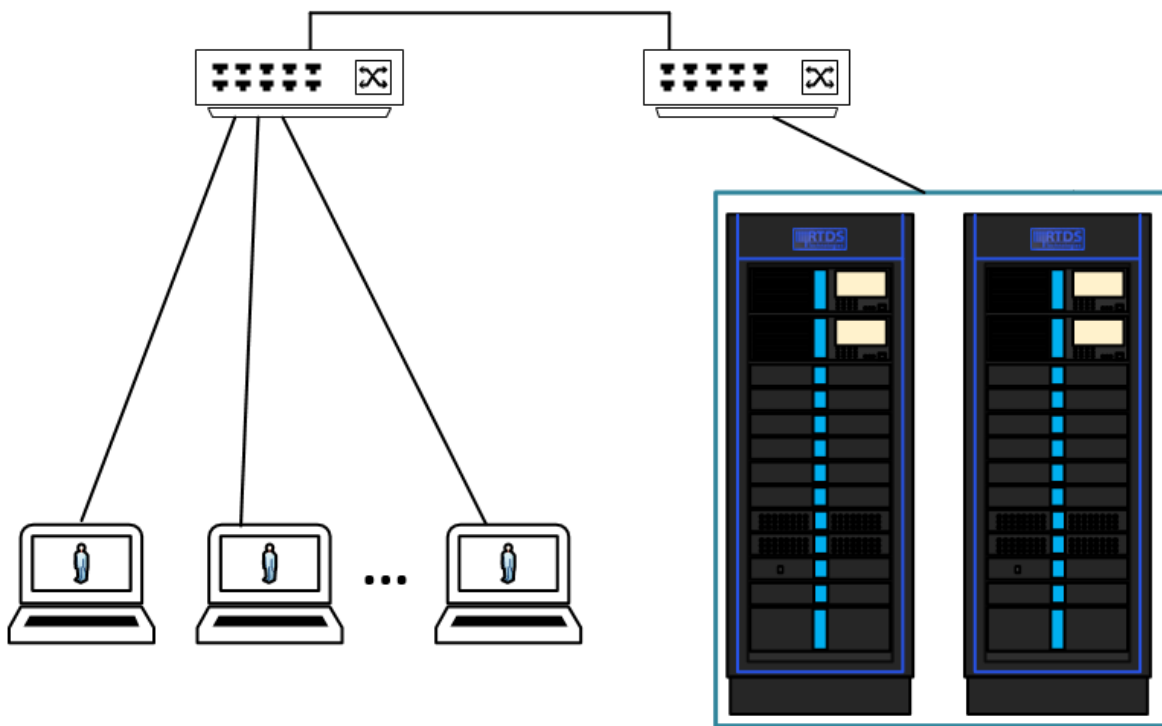

Figure 1 : Standalone LAN Connection Diagram
- Host computers manually configure their IP addresses to be in the same range as the RTDS simulator so that communication is possible. A diagram is shown in Figure 1, which shows this configuration.